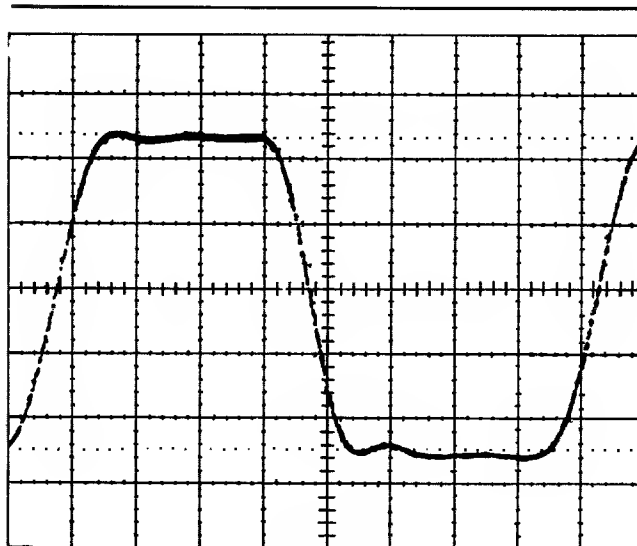

Figure F-4.
4. To measure symmetry at 12 MHz a different technique must be used. Connect signal (terminated into 50Ω) to a sampler set at 10 ns/div. Upper and lower levels should be exactly centered about horizontal centerline on scope display (see figure F-4). Rising edges of first and second cycle should be exactly equidistant from vertical center line. The distance of the falling edge from the vertical center line at the point falling edge crosses horizontal center line is the symmetry error.